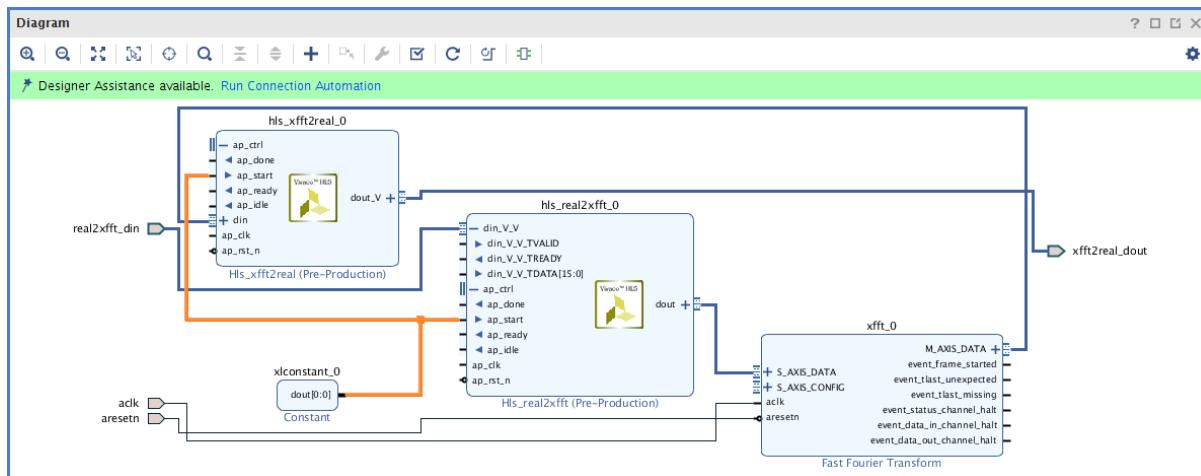

Figure 9-21: Connect AP_START to Constant
- g. Connect ap_start in both HLS blocks to the Constant block (Figure 9-21).